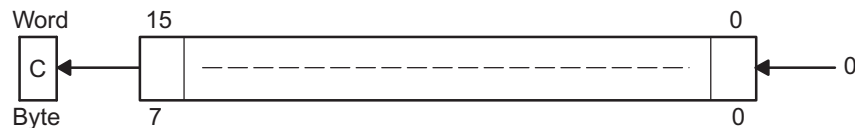

Figure 3-15. Destination Operand – Arithmetic Shift Left
Description The destination operand is shifted left one position as shown in Figure 3-15. The MSB is shifted into the carry bit (C) and the LSB is filled with 0. The RLA instruction acts as a signed multiplication by 2.